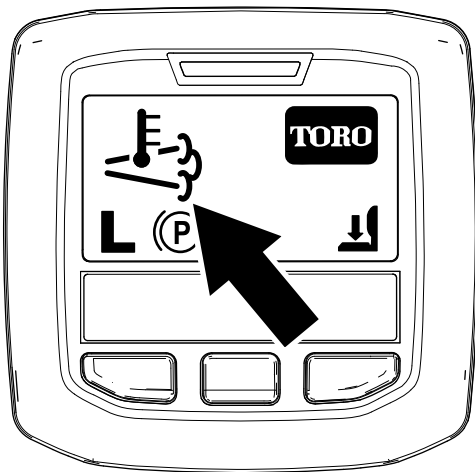

Figure 29
- The high exhaust-temperature icon  displays in the InfoCenter (Figure 29).